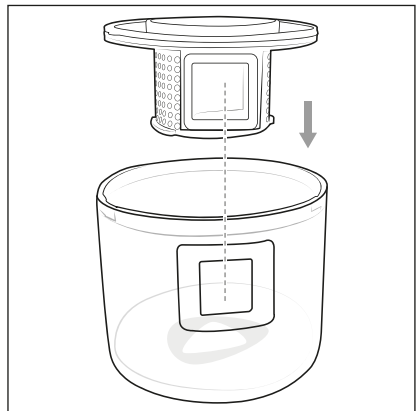

Fig. 7
- 6) Reinsert the dust filter **6** into the dust container **4**. In doing so, make sure that the side openings of the dust container **4** and dust filter **6** match up (Fig. 7).